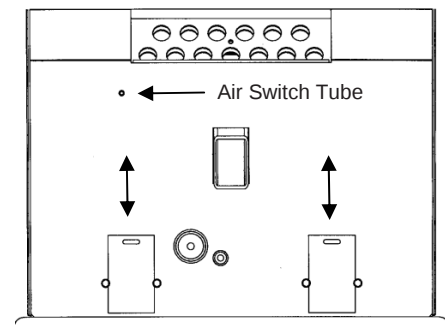

FIGURE 18
- Interior Chambers** - The two ash doors in the firebox in the Breckwell Big E can be removed for periodic cleaning (refer to Figure 18). These doors allow access to the chamber behind the firebox.